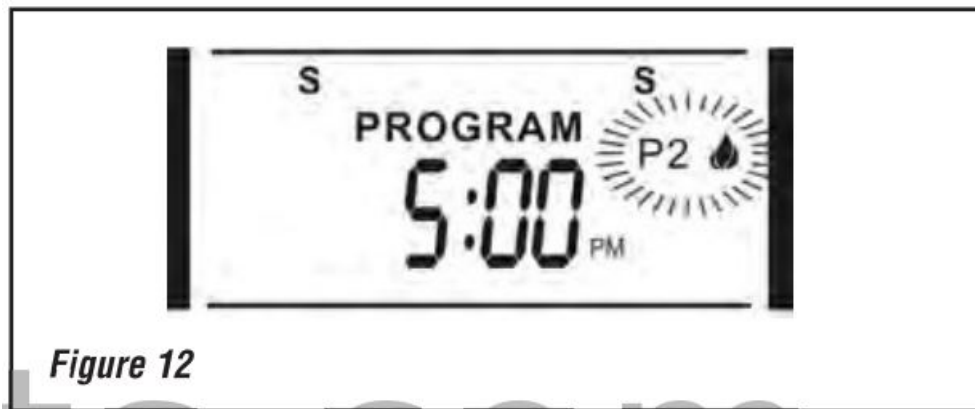

Figure 12
- Now the P2 ON will begin to flash. Select the time you want your appliance to turn on by using the UP and DOWN touch buttons. Then press SET. (See Figure 12).